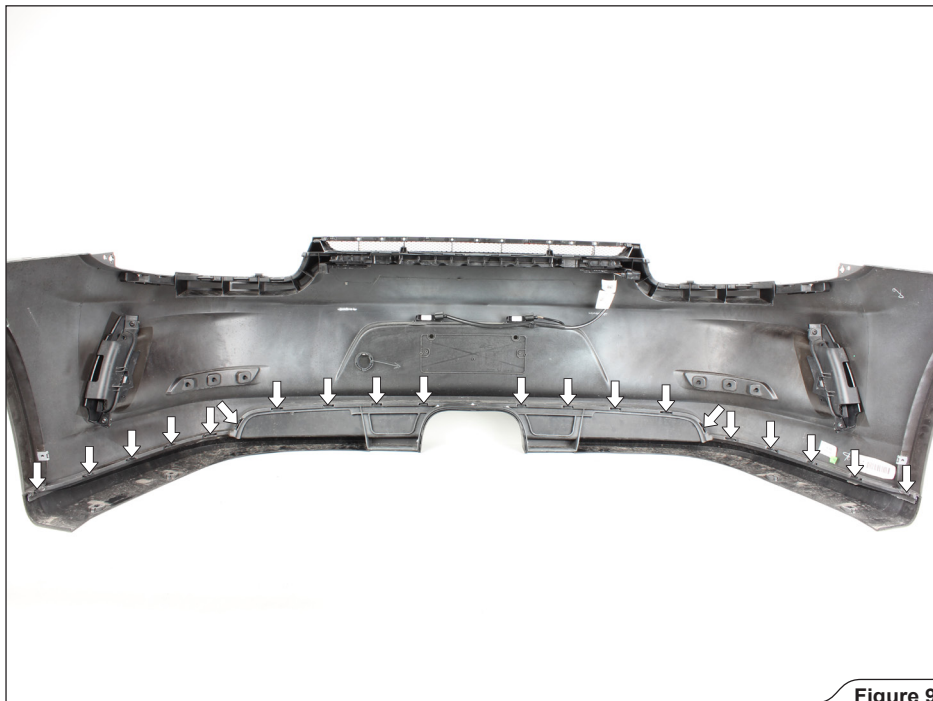

Figure 9
8. Unhook the marked fasteners and carefully remove the stock diffuser off the vehicle (**Figure 9**).